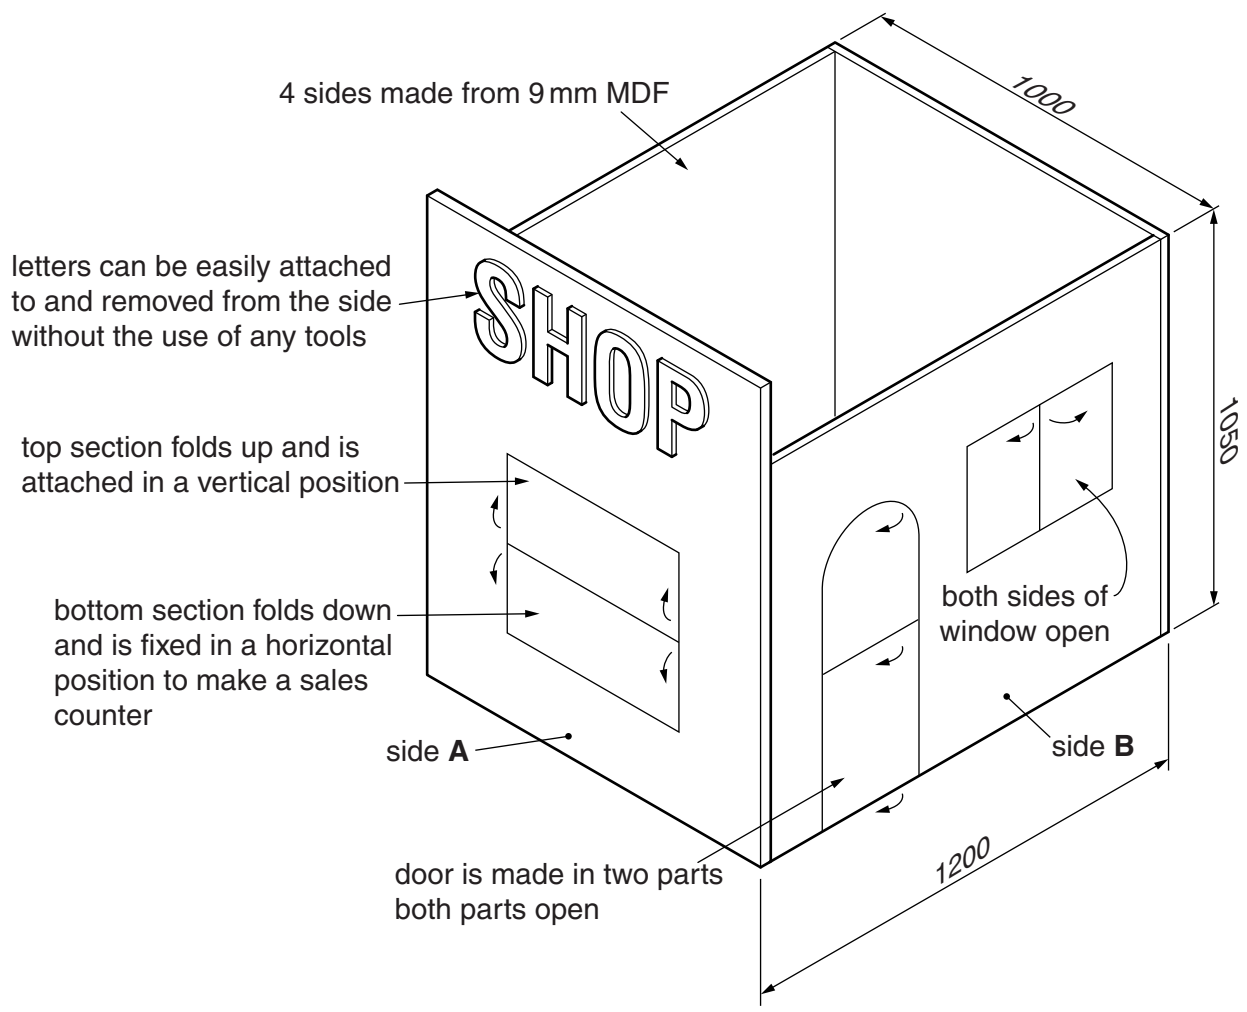

Fig. 9
- 9 Fig. 9 shows an incomplete idea for a toy shop which will be used by children aged 3 to 5 years.